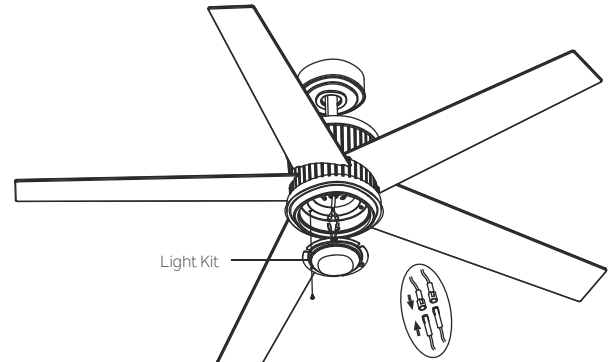

Fig. 20
**Step 1.** Hold the light kit close to the switch housing and connect the WHITE wires from the light kit and fan by pushing the connectors together. Follow the same procedure with the BLACK wires. (Fig. 20)
**Step 2.** Tuck the connections neatly into the light kit. Remove one of three screws pre-installed on the switch housing and keep for later use. Loosen the other 2 screws (do not remove). Place the two slot holes on the light kit over the 2 screws previously loosened from the switch housing. Rotate the light kit until it locks in place at the narrow end of the key holes. Secure by tightening the 2 screws previously loosened and the one previously removed. (Fig. 20)